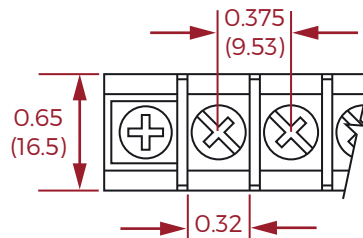

Figure 5. Output Barrier Strip Detail
Barrier strip connection use No. 6-32 screws. Recommended wire size is #10AWG. Figure 5 below shows detailed spacing of the terminals.
- 11.3 Output connections are made to barrier strip connectors and grounding screws. See Section 9.3 and Figure 5.